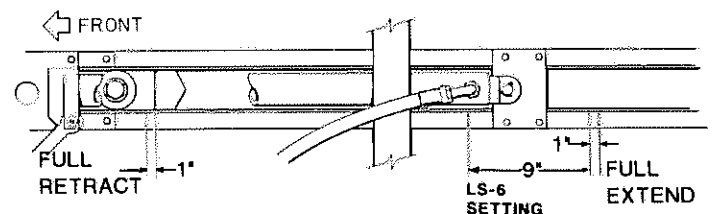

Fig. 44
The plunger should retract approximately 9 inches, before LS-6 (Plunger Return Delay Switch) is activated to stop the plunger. The plunger has retracted approximately 9 inches when the front edge of the make-up cylinder bolt is on the rearward edge of twine box mount, see **Fig. 44**.
17. Repeat Steps 4 through 16 as necessary until the plunger stops when it is 9 inches from its fully extended position, see Fig. 44.